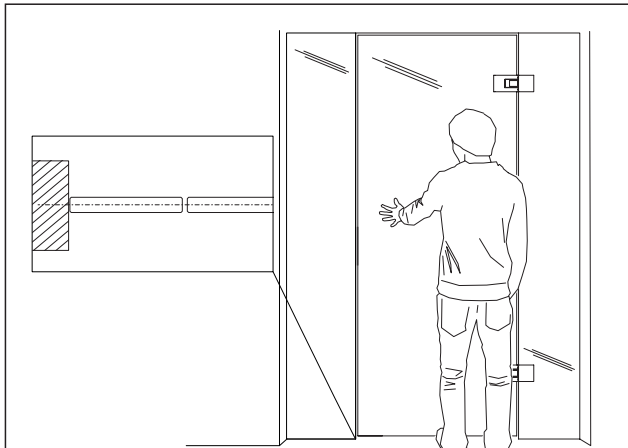

Fig. 34 Ideal "O" position from the glass door leaf to the side panel
2. Bring the glass door leaf to the ideal "O" position (Fig. 34).